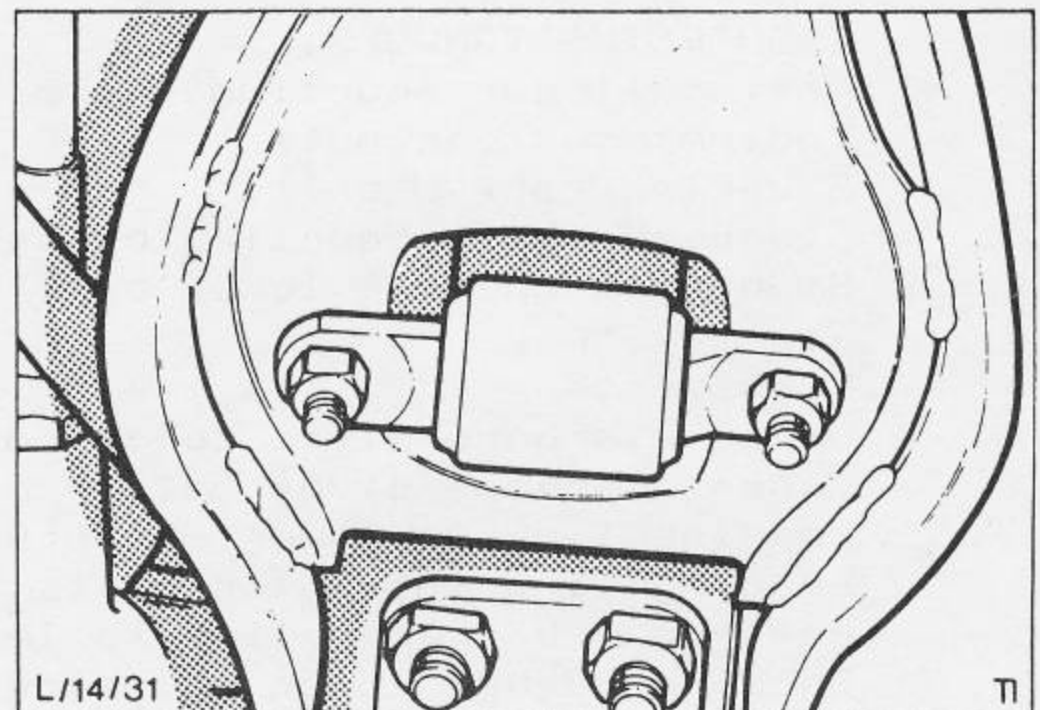

Fig.60 Shock absorber lower mount.
7. Refit two lower shock absorber mounting nuts and torque to 12 - 15 Ft. Lbs. Fig.60